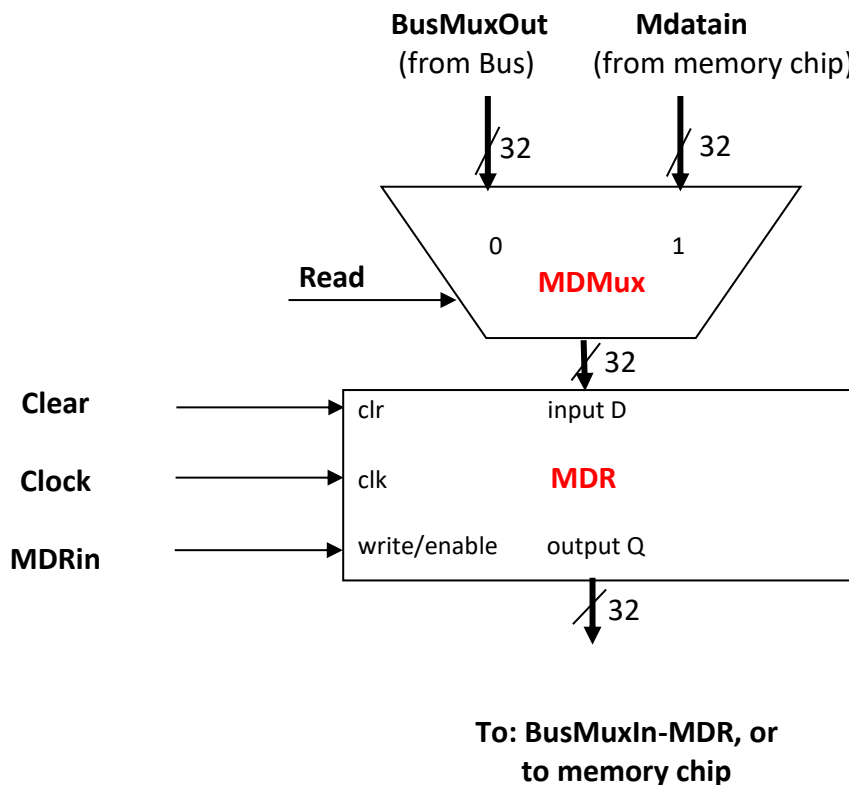

Figure 4: The MDR unit
Memory Data Register: The *Memory Data Register (MDR)* is different from the other registers in the sense that it has two input sources and two output sources. Figure 4 presents how *MDR* is connected to the memory bus, and to the internal bus. The inputs to the *MDR* comes from the memory unit (**Mdatain**) or from the Bus (**BusMuxOut**). Data is stored in the *MDR* using the synchronous *Clock* signal and the *MDRin* control signal. The *MDR* contents can be written into the memory or drive the Bus.
3. Design the MDR unit (Figure 4) and connect it to the BUS. Leave the rest of the Memory Subsystem (connection to the memory chip) for Phase 2.